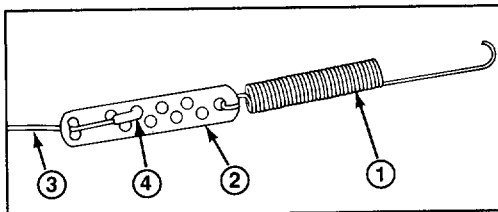

Figure 4
(Figs. 4 & 5)
2. Hook spring to round hole at end of cable adjuster (Fig 4).
3. Route cable through elongated hole in cable adjuster. Insert Z fitting on end of cable into 3rd hole on cable adjuster (Fig. 4).